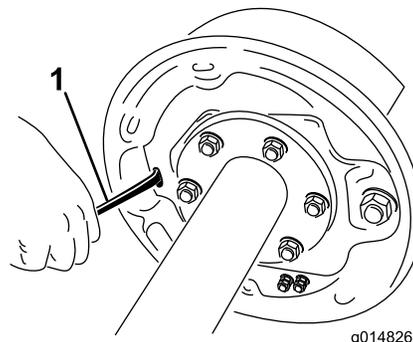

Figure 63
4. With a screwdriver, rotate the star wheel of the adjuster assembly to expand the brake shoes (Figure 63).